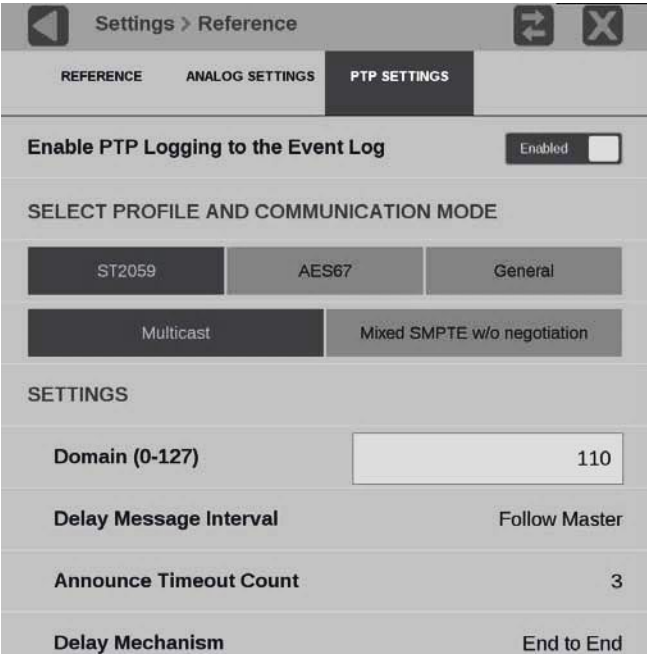

Figure 67: Editing PTP reference settings
- 2. Select **Reference** to open the Reference submenu and select the **PTP Settings** submenu. (See Figure 67.)